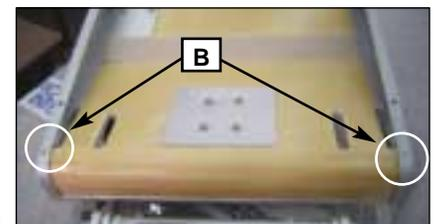

FIG. 304A:
- (2) Remove two screws (B) and respective attaching nuts (see fig. 304A).